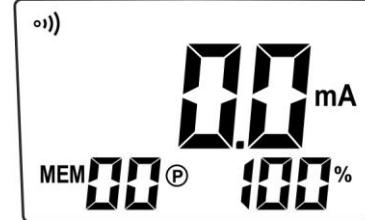

Fig. 24
2. The instrument displays the message "**OL Ω**" as it automatically sets for resistance measurement. Shortly press the multifunction key **▲A** to enter current measuring mode. The screen in Fig. 24 is displayed.